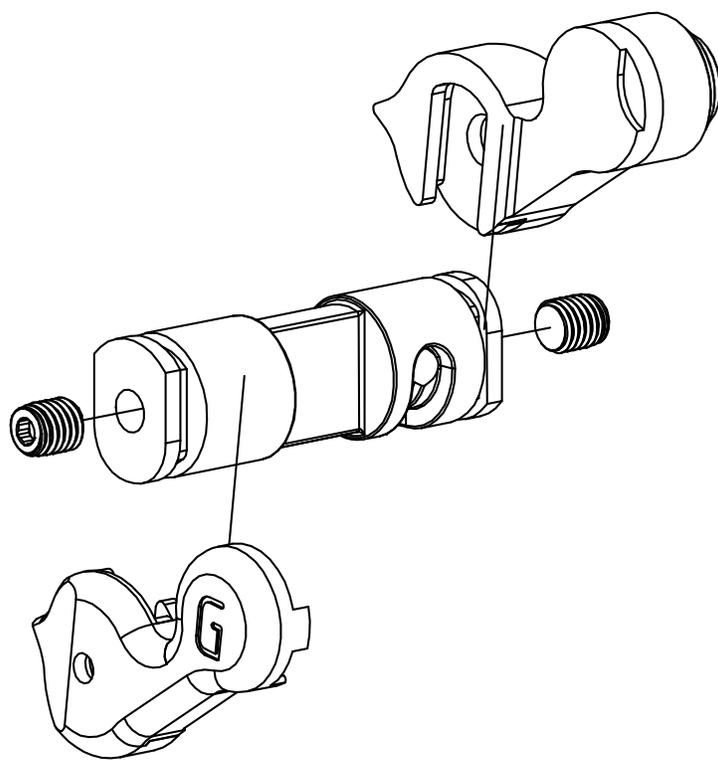

Figure 1
5. Install the lever by lining the opening on the selector lever with the oval shaped post on appropriate side of the selector barrel and then sliding it down into place (See Figure 1).